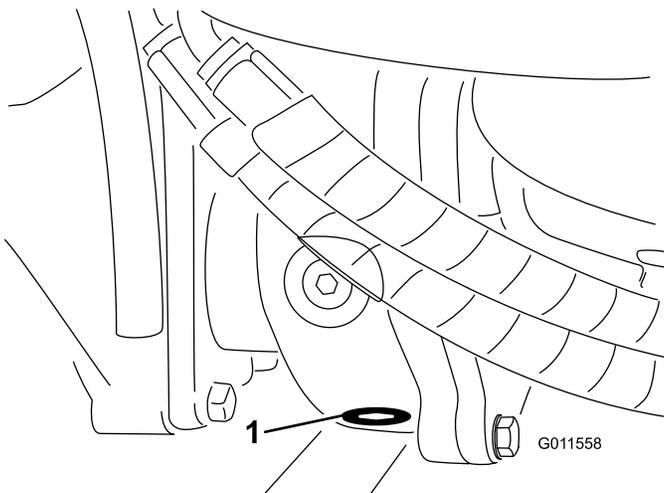

Figure 70
5. Clean the area around the drain plug at the bottom of the gear box (Figure 70).